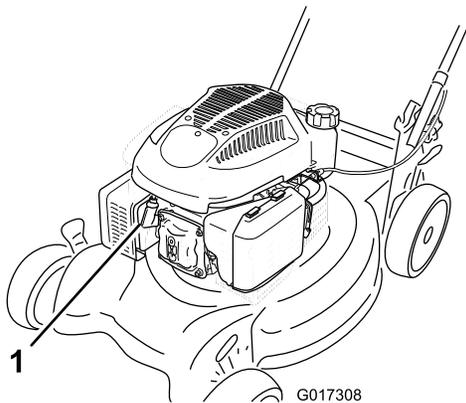

Figure 26
2. Disconnect the spark-plug wire from the spark plug (Figure 26) before performing any maintenance procedure.